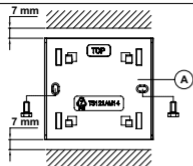

Fig 3.
- b. the wall using the screws and plugs supplied (fig. 3);